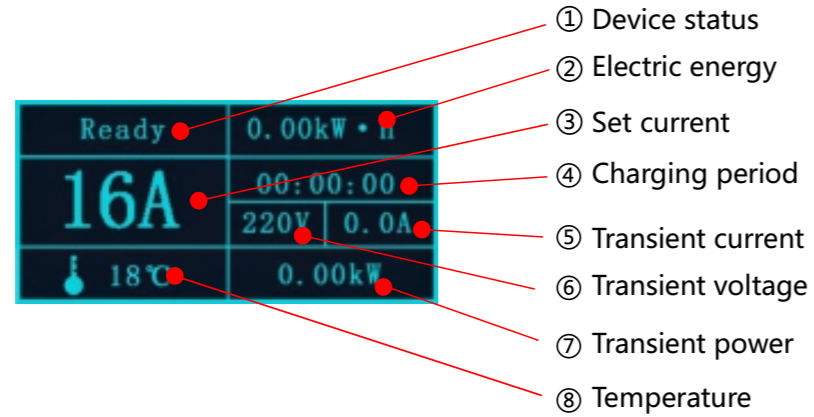

Figure 3 Display interface
When the IC-CPD works incorrectly, the corresponding parameter(i.e., ⑧ Temperature of figure 3) in the interface of the OLED will blink (i.e., warning message).